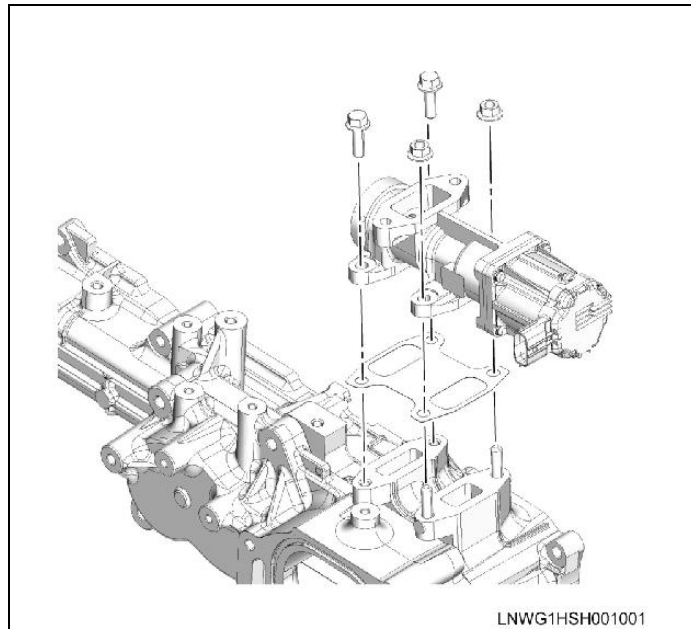

Figure 18
23. Install the EGR valve and plug in the EGR valve connector. Torque bolts and nuts to 23.5 Nm (17.3 lb-ft). (Figure 18.)